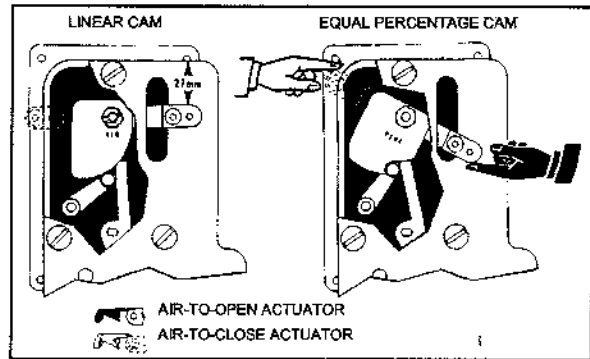
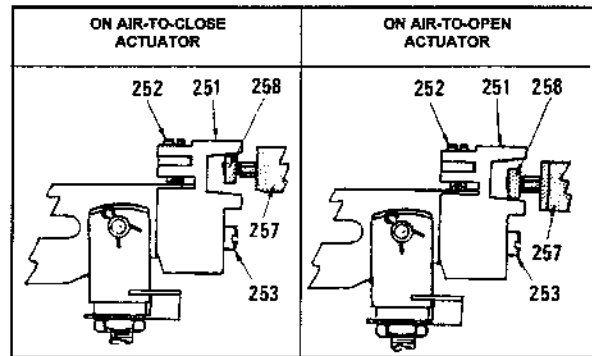

Figure C8 - Reference position of the cam/back lever S/A
Figure C10 - Operating face of the coupling (251)
3. Turn biasing spring adjusting screw (52) until the rear lever is in horizontal position. This reference position can be considered as reached when the distance between the top of the rear lever (257) and the upper edge of the support plate (254) measured with a rule is equal to 27 mm (see figure C8).
1. Adjust the signal to the value corresponding to the valve closing. If the actuator stem, on the air-to-open valve, is in intermediate position, then turn biasing spring screw (52) so there is no air under the stem.
2. Loosen screw (253) using a special 4 mm Allen wrench (length of a small leg: 10 mm) and turn coupling adjusting screw (252) so that the bearing (258) of the rear lever (257) is lightly loaded by operating face of the coupling (approximately one screw turn after the bearing-to-coupling contact) (see figure C10).
3. Press by finger the rear lever (257) so that the roll of the lever (82) is just settled in the concave part of cam profile. This reference position is correct only if you feel a tough point at the beginning of the rear lever movement (see figure C8).
4. Maintaining the rear lever in this position, turn biasing spring adjusting screw (52) till the moment when the plug takes off from its seat. The precise point of the plug opening will be indicated by the comparator pointer.
5. Go on with maintaining the rear lever in its reference position (step 7) and turn the coupling adjusting screw (252) so that the operating face of the coupling (251) has just come into contact with the bearing (258). Tighten the screw (253) (see figure C10).